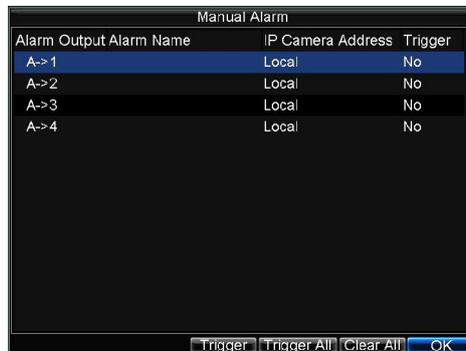

Figure 13. Manual Alarm Menu
1. Click Menu > Manual Alarm to enter the Manual Alarm menu (Fig. 13).